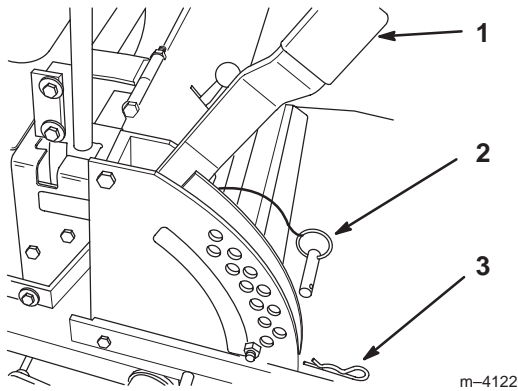

Figure 21
1. Raise the height-of-cut lever to the transport position (also the 4-1/2 inch [114 mm] cutting height position) (Fig. 21).
2. To adjust, remove the hairpin cotter and clevis pin from the height-of-cut bracket (Fig. 21).
3. Select the hole in the height-of-cut bracket corresponding to the height-of-cut desired, and insert the clevis pin (Fig. 21).
4. Secure the clevis pin with the hairpin cotter (Fig. 21).
5. Lower the height-of-cut lever onto the clevis pin (Fig. 21).